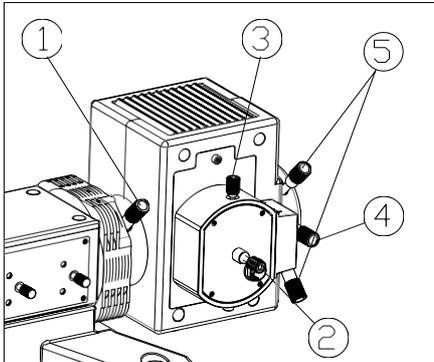

图 24
⑪ Install the centering objective into the nosepiece to move the centering objective into light path, and turn the frosted glass to the operating position.
⑫ Move the fluorescence filter block B1 into the light path.
⑬ Open the field diaphragm and aperture diaphragm to the largest.
⑭ Adjust the condenser adjusting pole ①, the vertical adjusting screw ② of mercury lamp, and the horizontal adjusting screw ③ of mercury lamp to make the filament image projected on the “+” scale of the centering objective. (Fig. 24, 25a)
⑮ Adjust the focusing screw ④ of reflecting lens and the centering screw ⑤, to make the reflected image projected on the “+” scale of the centering objective. (Fig. 24, 25b)
⑯ Adjust the centering screw ⑤ to make the filament image and reflected image symmetry to the “+” scale of the centering objective. Adjust the focusing screw ④ to make both images with same size. (Fig. 24, 25c)
⑰ Adjust the vertical adjusting screw ② of mercury lamp, and the horizontal adjusting screw ③ of mercury lamp to make the two images superposition to the center of “+” scale. (Fig. 24, 25d)
⑱ Screw down the centering objective, install the fluorescence objective, and move the 10X objective into the light path. With the fluorescence filter block B1, set the slide on the stage, and rotate the coarse focusing knob to find the image. Then rotate the fine focusing knob to make the image be clear.
⑩ Observe through eyepieces and adjust the condenser adjusting pole ① to make the field of view to reach the normal brightness, then lock the knob.